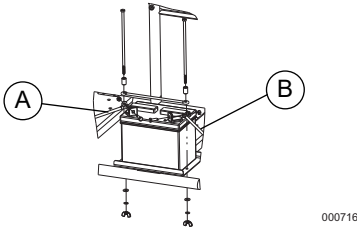

Figure 4-4. Battery Connection
- See Figure 4-4.
1. Disconnect negative (-) battery terminal **FIRST (A)**.
2. Disconnect positive (+) battery terminal **SECOND (B)**.